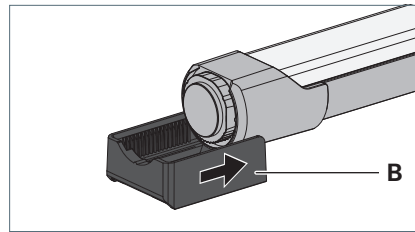

Fig. 2: Mounting the holder
- ▶ Place the holder **B** on the side part such that the detent lug is located in the groove of the side part and the holder locks into place in the side part, see Fig. 2.